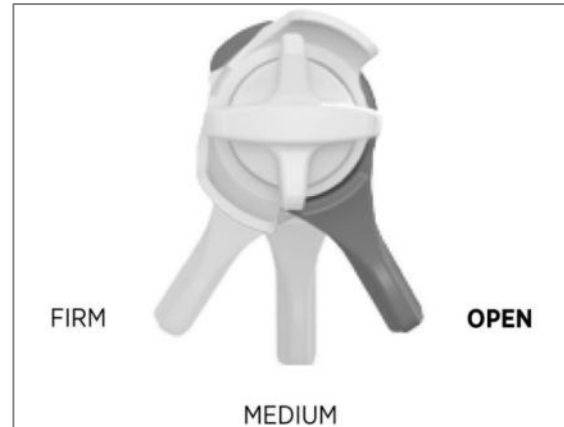

Figure 37: Setting of the 3-way lever to “Open mode” (with FOX dampers)
1. Set the front dampers to “Open mode” (Fig. 37, “Open” position).